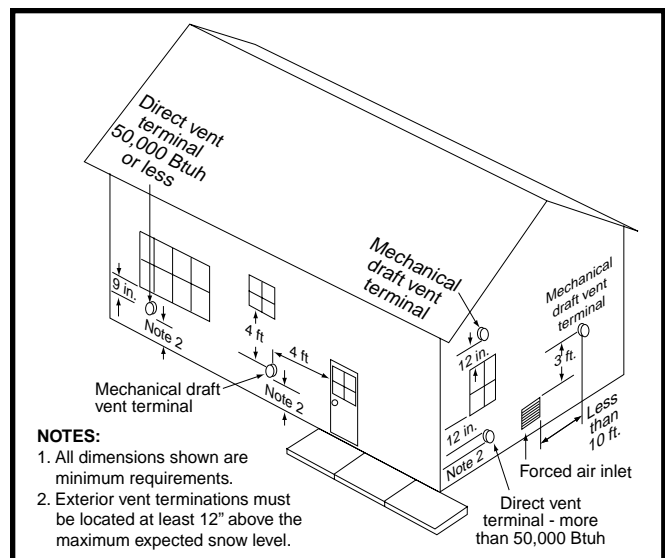

Figure 8. Vent Locations
- All minimum clearances must be maintained to protect building materials from degradation by flue gases as shown in Figure 8 (page 12).